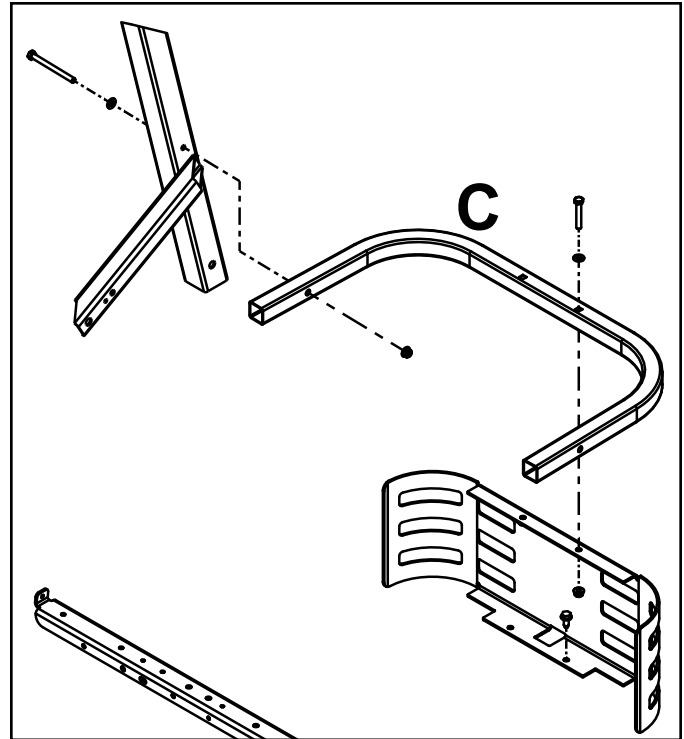

Fig. 039
9. Install and sufficiently tighten the (2) thread forming bolts that secure the rear guard tube (C) to the seat support (E). OR Install the bolts / nuts securing the rear engine guard to the ROPS frame (F) (Fig. 039).